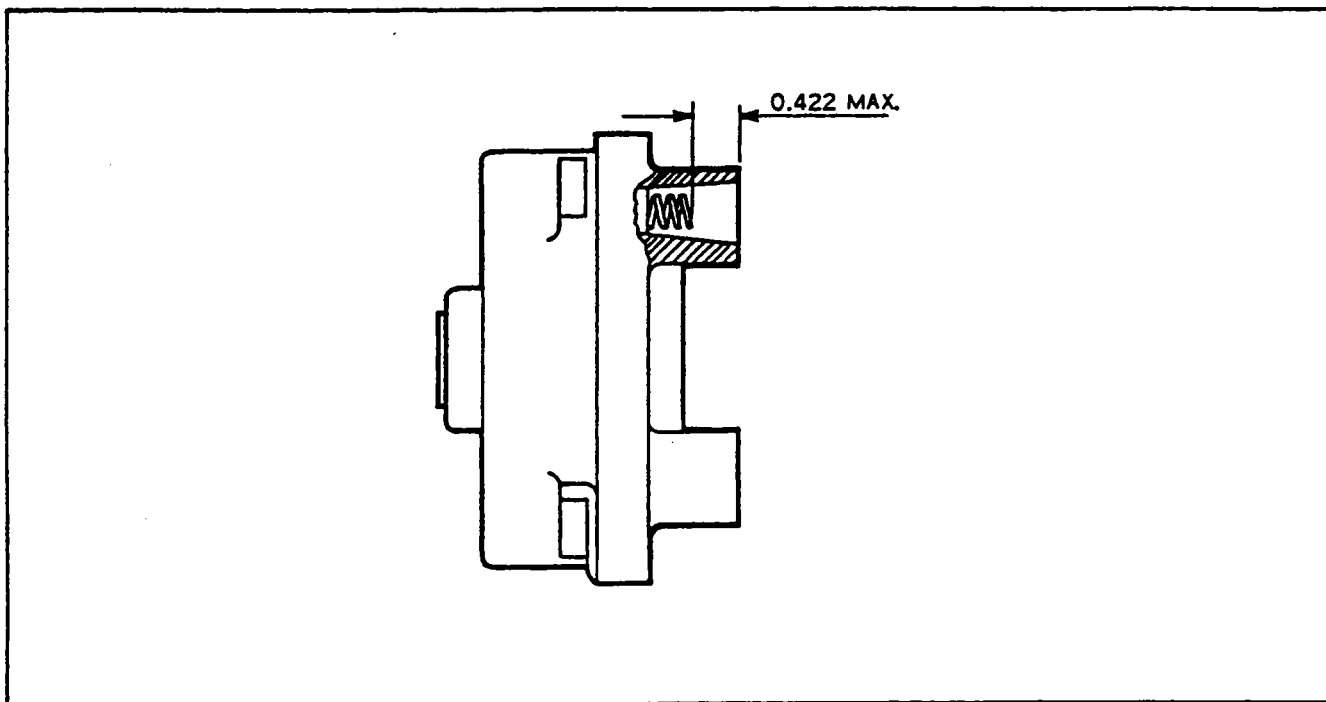

Figure 8-9. Contact Spring Inspection
d. Should this not be possible, a visual inspection may disclose the source of trouble. Remove the harness outlet plate from the magneto. Inspect for the presence of moisture and foreign matter on the rubber grommet and high tension outlet side of the distributor block. Check height of block contact springs. The top of the spring must not be more than 0.422 of an inch below the top of the tower as shown in Figure 8-9. If the springs are broken or corroded, replace them.